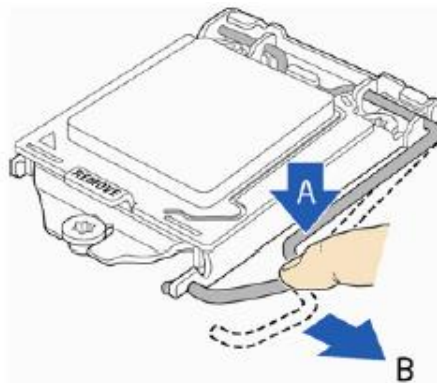
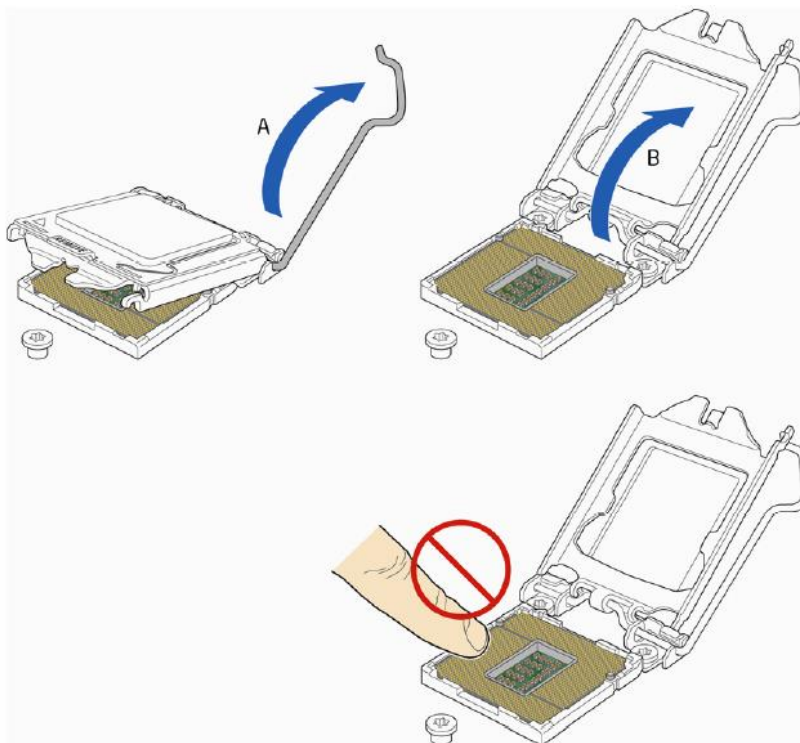

Figure 13: Unlatch the socket lever
Figure 14: Lift the load plate
1. Unlatch the processor socket lever by pushing it down and away from the socket. (Figure 13, A, B)
2. Rotate the socket lever to lift the load plate away from the socket (Figure 14, A). Make sure that the load plate is in the fully open position (Figure 13, B) while being careful not to damage adjacent components. Do not touch the socket contacts.